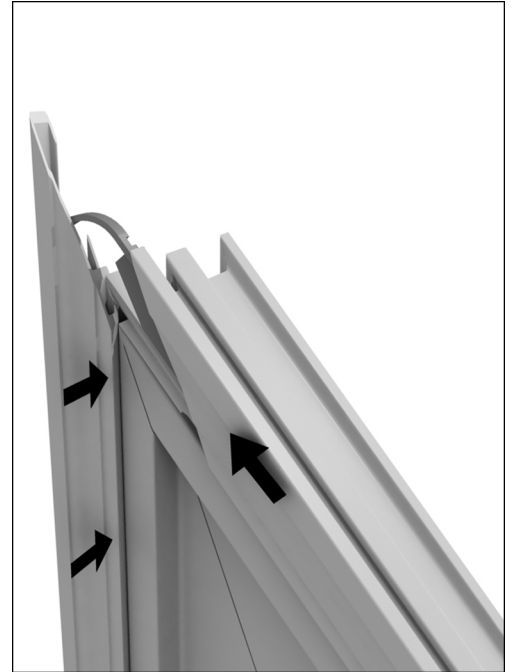

Figure 2
2. Manually bend the adjustable key until it is parallel with the adjacent leg of the frame. Maintain a U-shaped bend as shown. Slide the adjacent J-Channel onto the key and press into place. See figure 2.